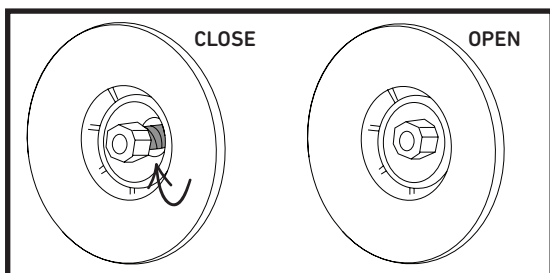

Fig. 2
5. Make sure the pump valve is in the position CLOSE (Fig. 2).